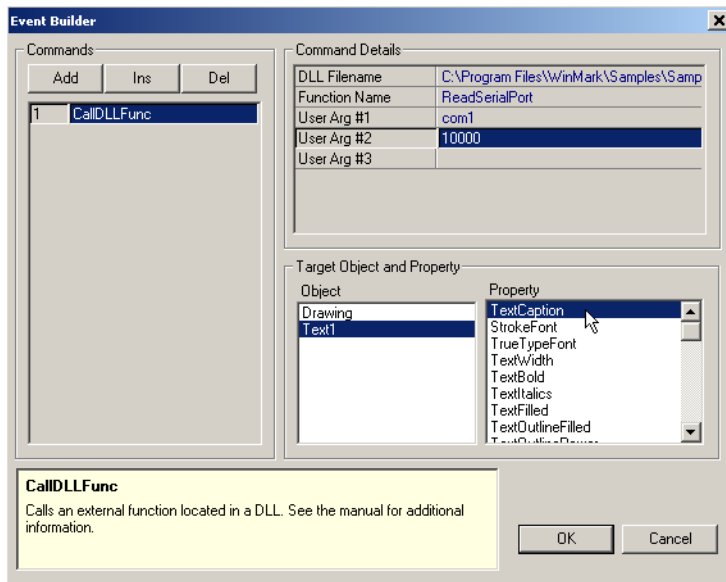

Figure 17-3 Event Builder - CallDLLFunc command dialog box
- 7 In the *Target Object and Property* frame, select a target object (*Text1*) and corresponding object property (*Text Caption*). Your *Event Builder* dialog should look similar to the one shown in Figure 17-3.